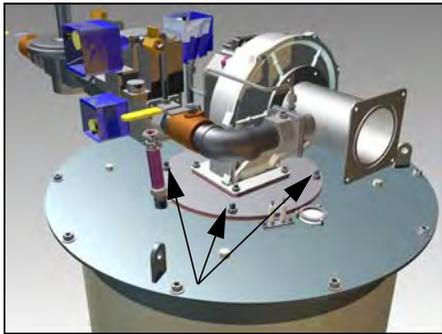

Figure 5-6 Removing blower
8. Unscrew the nuts (4) securing the blower adapter plate to the dry oven assembly (see Figure 5-6).